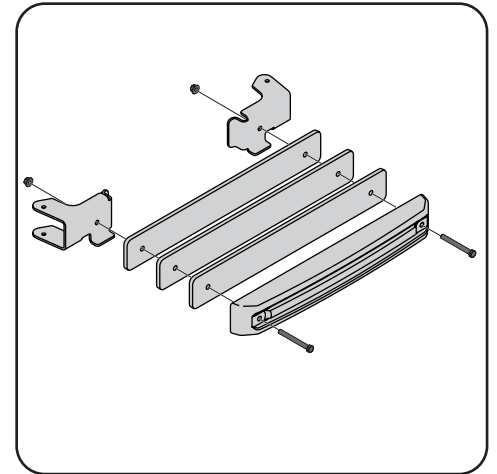

Figure 4-32
- Attach the weight and three weight plates to the weight hanger brackets with two 3/8" Hex head capscrews (710-3085) and two nuts (712-04065) as shown in Figure 4-32.